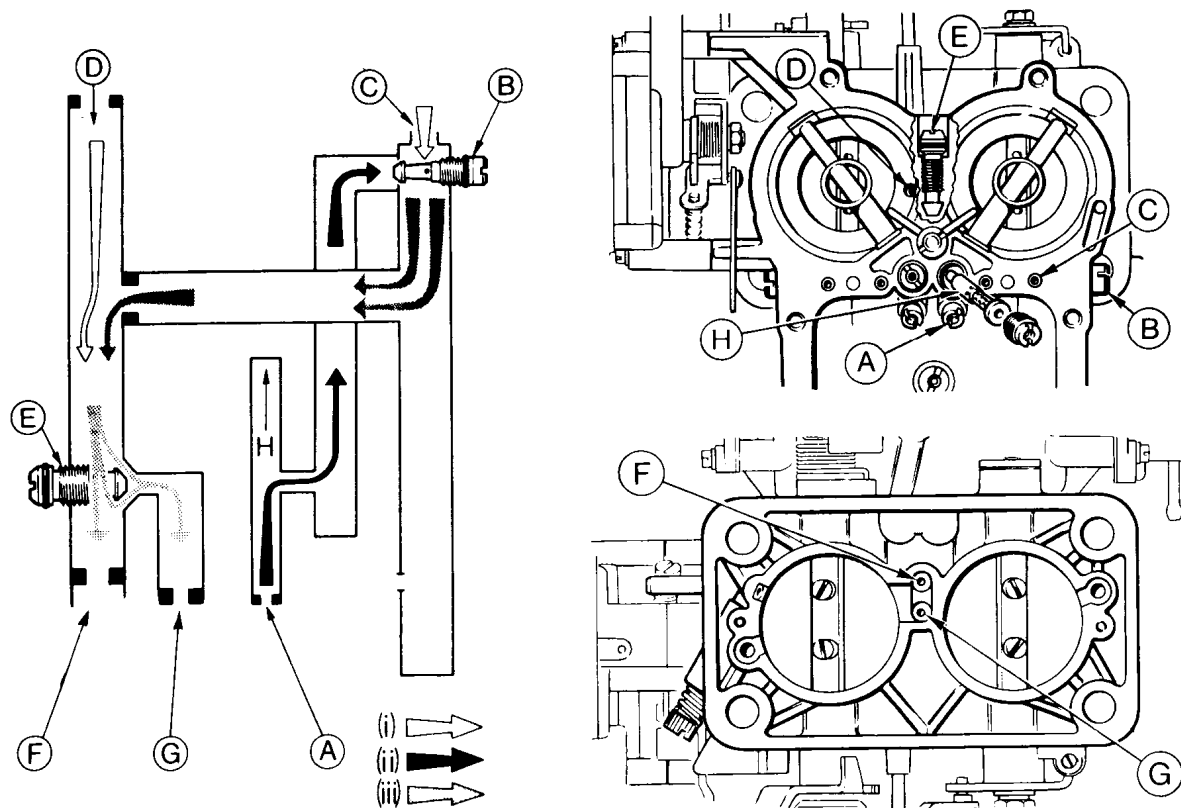

Fig. 1.11 The bypass idle system (Sec 5)
Reference to Fig. 1.11 will show the operation of the bypass idle system. Fuel from the float chamber is drawn through the secondary main jet (A) to the secondary idle jet (B) where it becomes emulsified with air drawn through the calibrated orifice (C). The mixture is then drawn through internal channels and a calibrated drilling and mixes with air supplied through the drilling (D) in the primary choke. The bypass idle adjustment screw (E) controls the amount of mixture admitted to the discharge apertures (F and G) which then is drawn through the inlet manifold and into the engine.